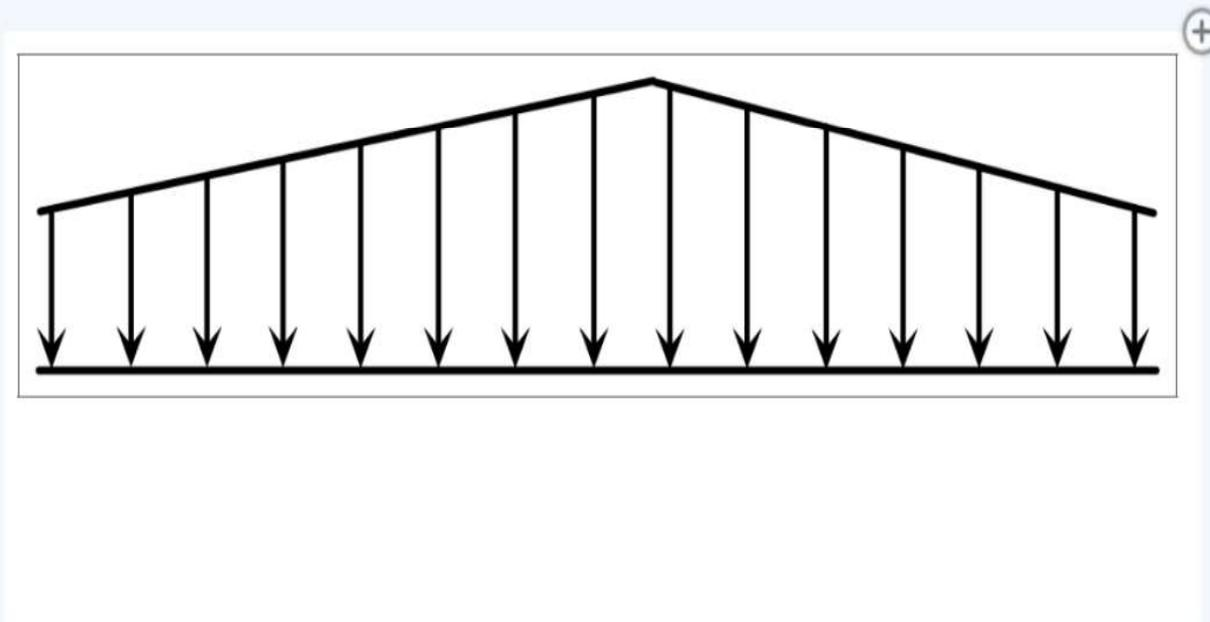

Figure 1.7
- **Distributed forces** for example beam's self-weight or additional load corresponding to a layer of snow. (figure 1.7)